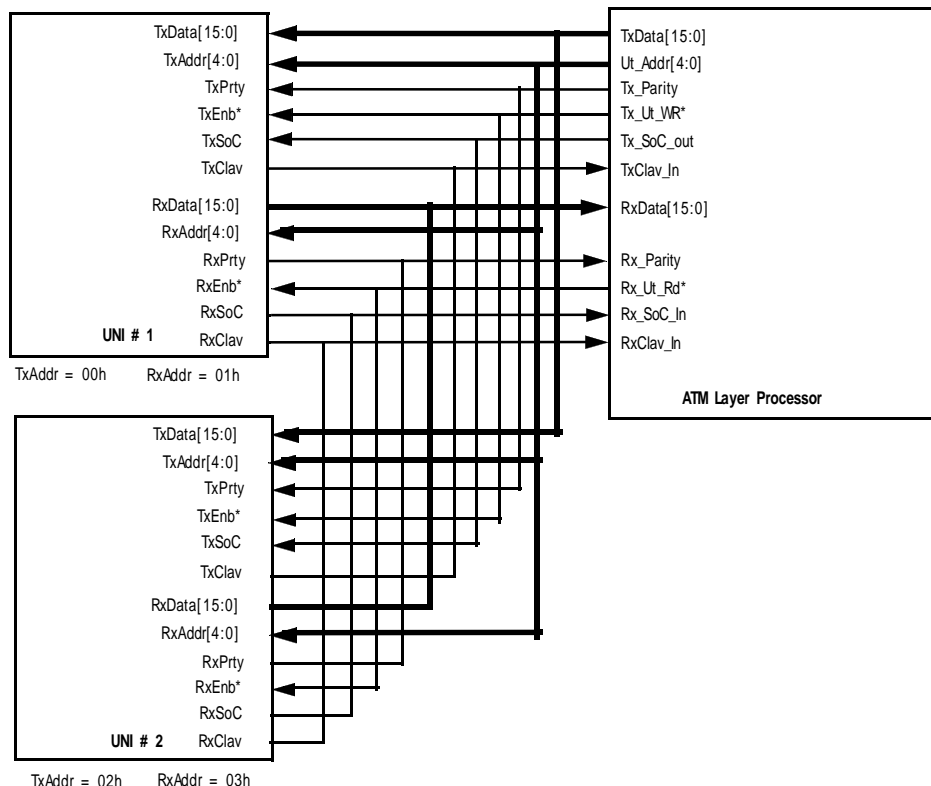

Figure 87. An Illustration of Multi- PHY Operation with UNI devices #1 and #2
Figure 87 depicts a “Multi- PHY” system consisting of an ATM Layer processor and two (2) UNI devices, designated as “UNI #1” and “UNI #2”. In this figure, both of the UNIs are connected to the ATM Layer processor via a common “Transmit Utopia” Data Bus, “Receive Utopia” Data Bus, a common TxClav line, a common RxClav line, as well as common TxEnB*, RxEnB*, TxSoC and RxSoC lines. The ATM Layer processor will also be
addressing the Transmit and Receive Utopia Interface block via a common “Utopia” address bus (Ut_Addr[4:0]). Therefore, the Transmit and Receive Utopia Blocks, of a given UN must have different addresses; as depicted in Figure 87.
The Utopia Address values, that have been assigned to each of the Transmit and Receive Utopia Interface blocks, within Figure 87, are listed below in Table 36.
Table 35. Utopia Address values of the Utopia Interface Blocks illustrated in Figure 87
3. The ATM Layer processor will then check the value of its “RxClav_{in}” input pin (see Figure 87).
When UNI #2 has been selected for “polling”, UNI #1 will continue to keep its “RxClav” output signal “tri- stated”. Therefore, when UNI #2 is driving its “RxClav” output pin to the appropriate level; it will be driving the entire “RxClav” line, within the “Multi- PHY” system. Consequently, UNI#1 will also be driving the “RxClav_in” input pin of the ATM Layer processor (see Figure 87).
Note: Although Figure 87 depicts connections between the Transmit Utopia Interface block pins and the ATM Layer processor; the Transmit Utopia Interface operation, in the Multi- PHY mode, will not be discussed in this section. Please see Section 6.1.2.3.2.1 for a discussion on the Transmit Utopia Interface block during Multi- PHY operation.